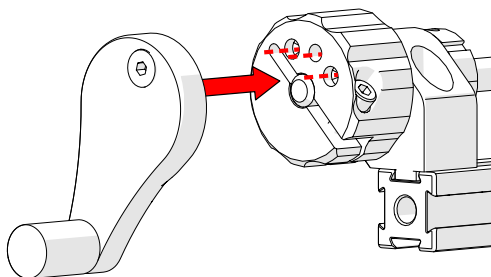

Fig. 133 - Align posts
1. Align the dowels of the crank handle with the holes of the main knob (Fig. 133).